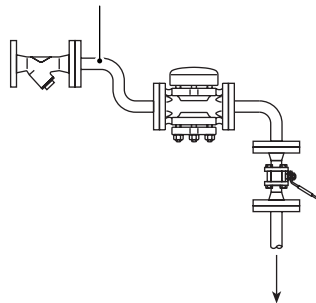

Fig. 3 Typical installation
3.4 The preferred installation is in a horizontal pipe with the insulating cover uppermost (see Figure 3). The trap will operate in any position, but the service life may be affected.